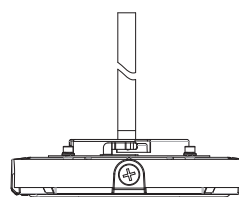

Figure 2
2. Screw the fixture to the 3/4" NPT Stem (Figure 2).